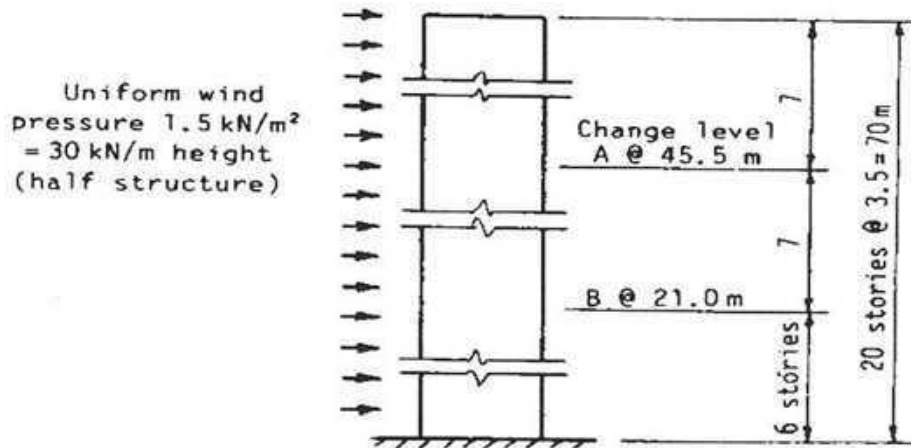

Fig. 2: Elevation of the shear wall structure
1. (a) Define tall building from structural engineer's point of view. (02)
- (b) Write down the assumptions of continuous medium method for the analysis of coupled shear walls. (05)
- (c) Discuss the advantages and disadvantages of suspended structure as a lateral load resisting system. (05)
- (d) Write down the significance of relative stiffness parameter  $kaH$  in the analysis of coupled shear wall structure. (03)
- (e) How does the behavior of shear wall-frame structure under lateral load differ from those of shear walls and frames? Describe with neat sketches. (10)
2. The plan and elevation of a shear wall structure are shown in Fig. 1 and Fig. 2, respectively. The structure is 70 m high (20 stories, each of 3.5 m height). The five shear walls include two symmetrical pairs (Types 1 and 2) and a central core (Type 3). Two change levels, A and B, divide the structure into three regions. The wall dimensions and inertias are given in Table 1. Determine the bending moment in wall Type 2 at change level B due to uniform wind pressure of  $1.5 \text{ kN/m}^2$ . Assume reasonable values of missing data, if any. (25)